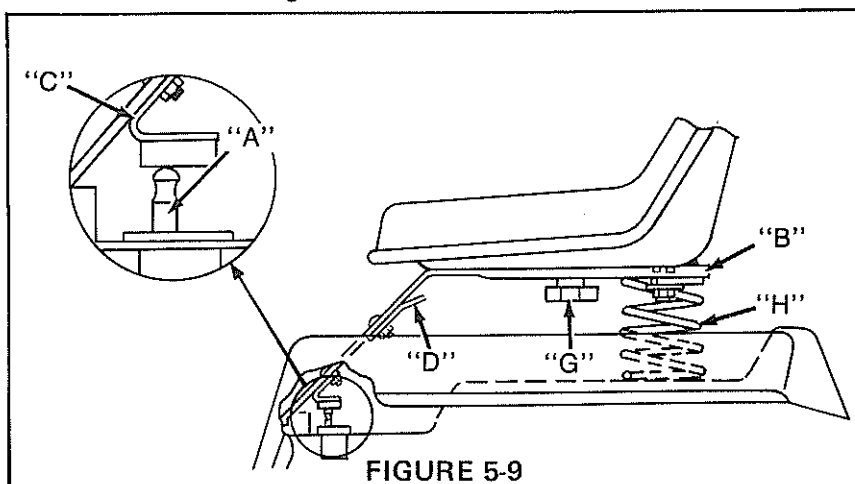

FIGURE 5-9
To adjust seat, loosen knobs (G) Figure 5-9 beneath seat and slide seat forward or back. For different spring suspension, twist spring (H) to loosen. Slide spring to the front for light operators or back for heavy operators. Twist spring to tighten.
(ALL MODELS EXCEPT 1458-01) (Figure 5-9)
2. The second switch is below the seat, (A), Figure 5-9. This switch should be activated when back edge of seat support (B) is depressed  $5/8"$  (16 mm). If not, loosen bracket (C) and move to correct location. The switch can also be activated by raising the seat and lifting the interlock button UP.